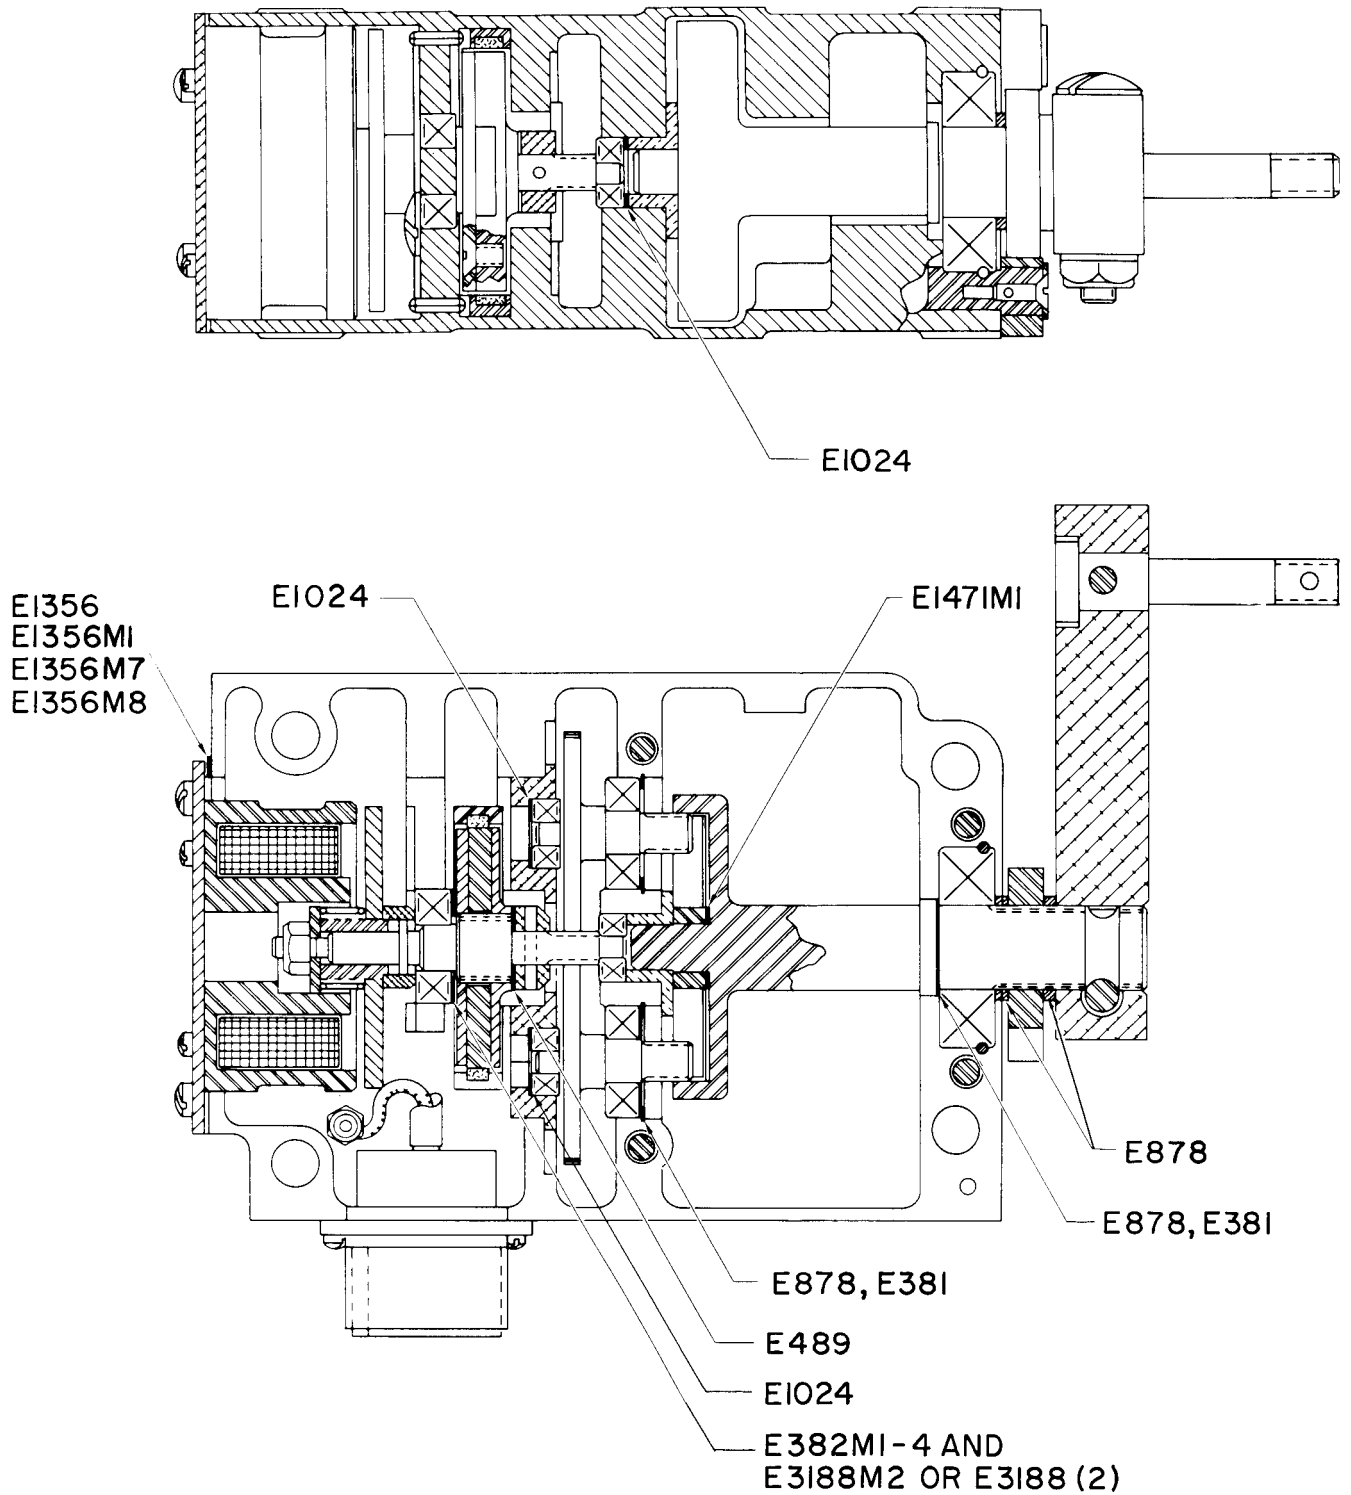

Figure 5-3. Shim Location Diagram, Part No. R460M15 and R460M15-3.
5-27. *Reassembly.* Same as for part no R460M10 except substitute figure 5-3 for figure 3-2. If optional stud, part no. 5690906, is to be installed in place of screw (59, figure 3-1) and nut (60), use a riveting fixture and a staking machine to rivet the stud in place. Install shim (56A) along with shim (56) as shown in paragraph 3-7i. Add the following leak check at the end of reassembly: Connect air seal test adapter AT2652-4 to air seal test panel AT2652. Remove one screw (12) and install air seal test adapter AT2652-4 in the vacated hole. Using air seal test panel AT2652, pressure test the magnetic brake for air leaks. The brake shall hold 0.5 psi for one minute with pressure drop not to exceed 0.25 psi within the specified time. Remove the adapter, coat the removed screw with sealant (item 8, table 2-2), and reinstall the screw.